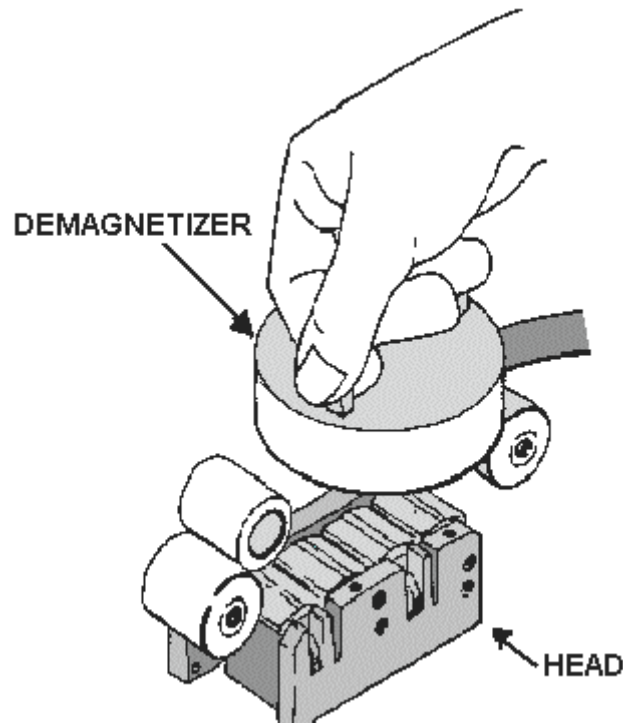

Figure 3-6.—Demagnetizing magnetic heads with a degausser.
4. Move the degausser back and forth across the head for 15 to 30 seconds. Figure 3-6 shows how this looks.